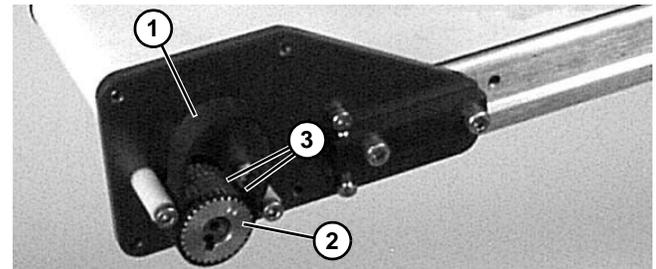

Figure 12
4. Remove old timing belt (**Figure 12, item 1**).
5. Place new timing belt (**Figure 12, item 1**) over driven pulley (**Figure 12, item 2**) and between belt flanges (**Figure 12, item 3**).